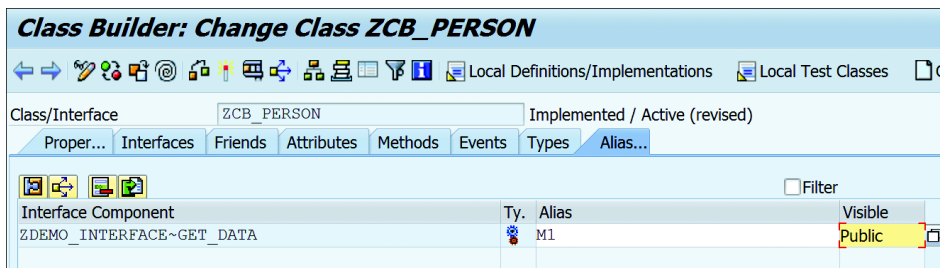

Figure 8.17 Aliases for Interface Component
4. The alias for an interface component can be maintained under the ALIASES tab, as shown in Figure 8.17. The name of the alias is maintained under the ALIAS column, and the visibility for the alias can be set under the VISIBLE column.